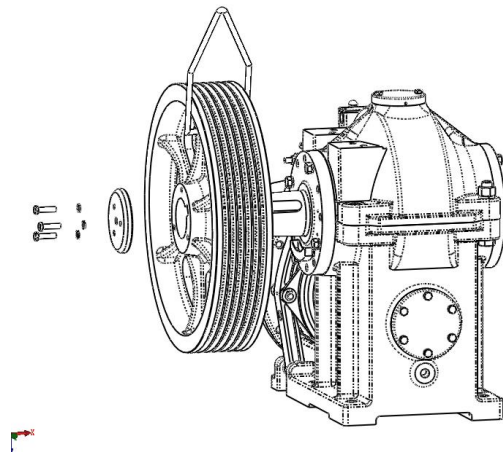

Figure 41 Sheave Replacement
6. Install a 1/2-ton hoist and rigging around the sheave. See figure 41.